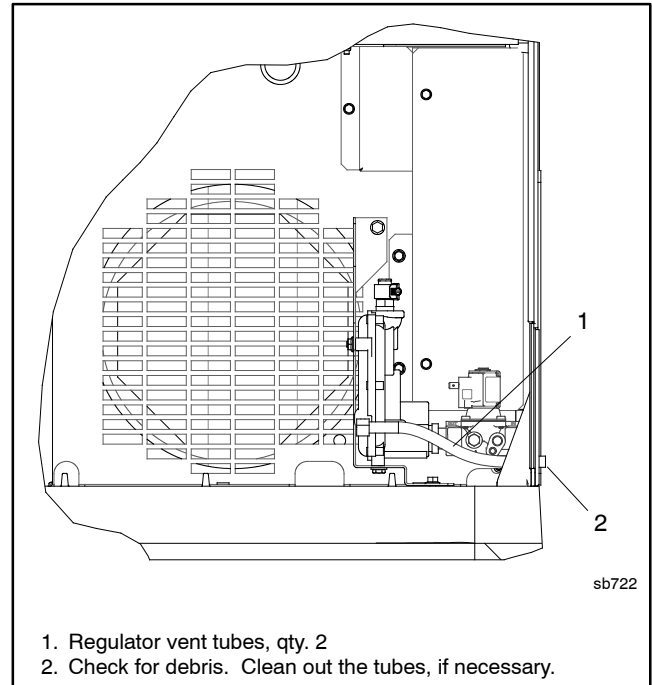

Figure 2-19 Fuel Regulator Vent Tubes (if equipped)
Models 20RESA(L) and 20RESC(L) may be equipped with the fuel regulator vent tubes shown in Figure 2-19. If the generator is equipped with the regulator vent tubes, check that the tubes are not blocked. Clean out the tubes, if necessary.